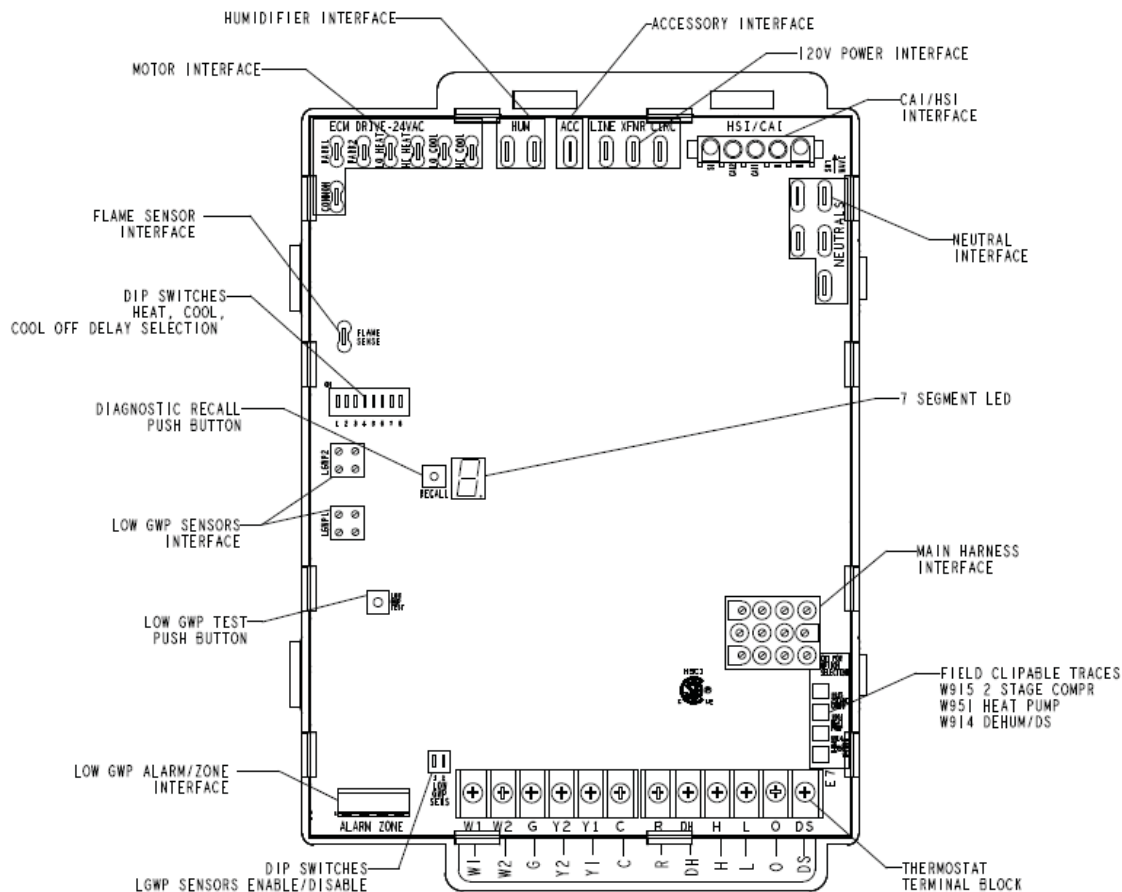

Figure 4.
Units are equipped a two-stage, ignition control. The system consists of a ignition / blower control (Figure 4) with control pin designations in Table 1, Table 2, Table 3 and ignitor. The control and ignitor work in combination to ensure furnace ignition and ignitor durability. The control provides gas ignition, safety checks and indoor blower control with two-stage gas heating. The furnace combustion air inducer, gas valve and indoor blower are controlled in response to various system inputs such as thermostat signal, pressure and limit switch signal and flame signal. The control features a seven-segment LED display, indicating furnace status and error codes. The LED flashes in single digits. For example using Table 4 under LIMIT CODE, an "E" followed by "2" followed by "5" followed by "0", the limit switch circuit is open. The control also has two unpowered (dry) 1/4" contacts for a humidifier and a 120 volt accessory terminal. Both rated at (1) one amp each.